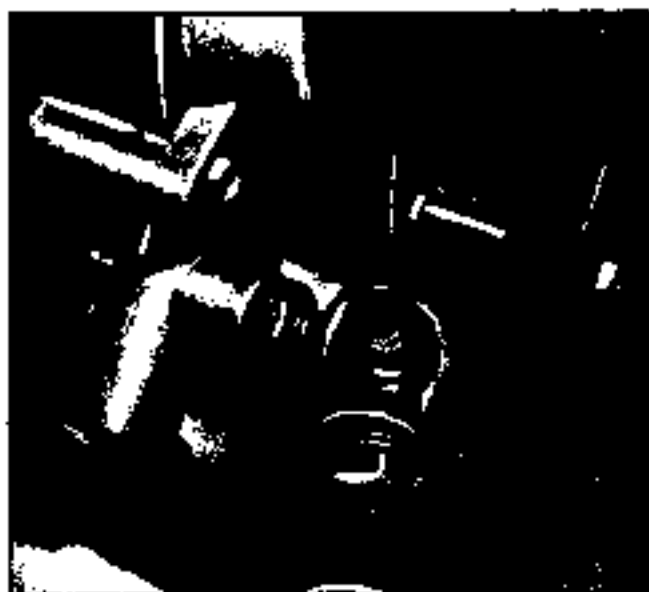

Fig. 4-24 Filling System through Service Valve
4. Inflate system through service valve to maximum available pressure (Fig. 4-24).
2. Inflate system through service valve to maximum available pressure (Fig. 4-24).